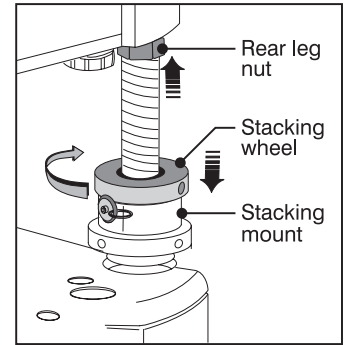

Figure 2.16. Secure All Hardware
- ❑ Turn all (3) stacking wheels until they are **firmly secure** against the rest of the stacking mount (Figure 2.16).
- ❑ Secure both (2) rear leg nuts against the bottom of the projector.